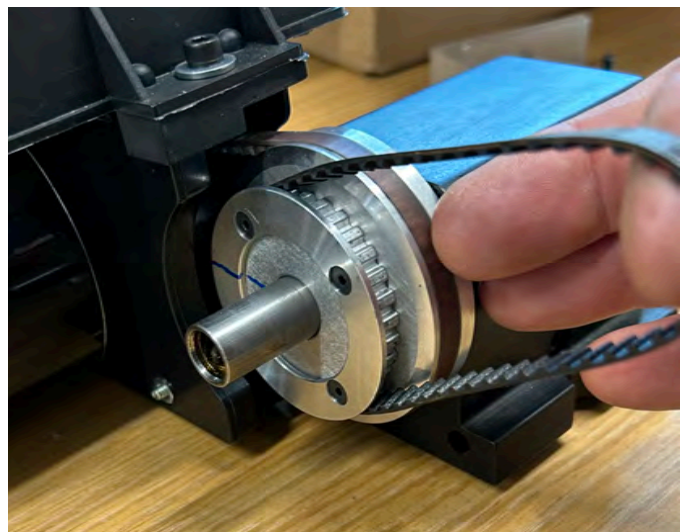

FIGURE 16
- Slip the timing belt (P/N 94006 for Morse #1 headstock or P/N 94007 for 3C headstock) between the belt guard and onto the cog pulley (see Figure 16).